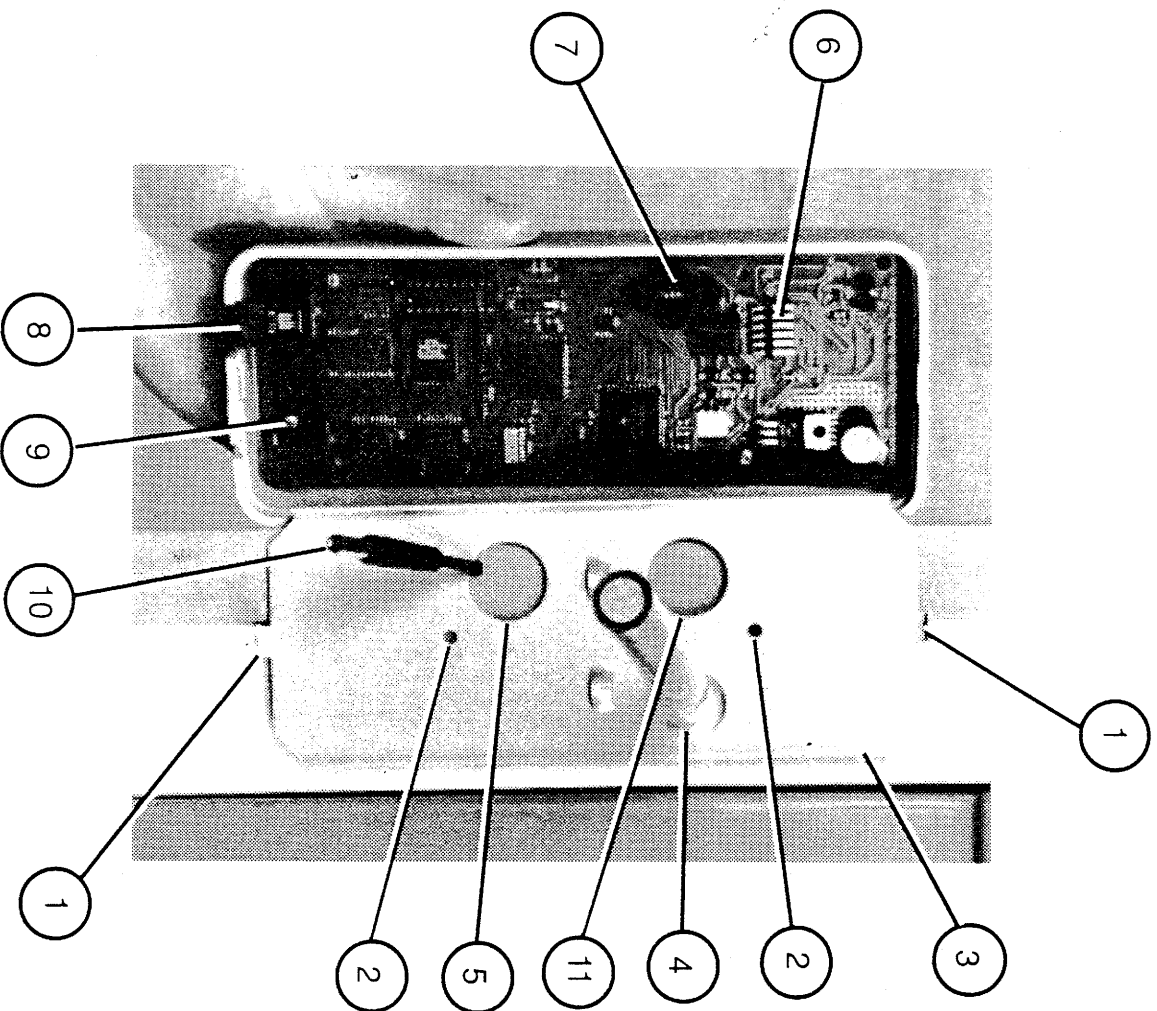
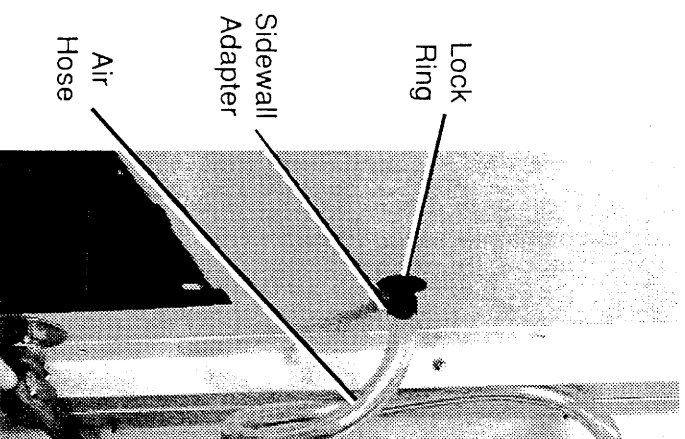

Figure 2.
Figure 3.
Table 2. Description of the Rear of the Monitor, reference figure 2.
Installation of the monitor requires drilling holes in the fume hood as shown in Figure 2. Additionally, many fume hoods will require a side wall adapter hose installation as shown in Figure 3.
- Step 2: Use the back plate (figure 2, item 3) as template to drill 2 holes, 0.104" diameter, (figure 2, item 2) to secure the back plate to the fume hood.
- Step 3: Use the back plate (figure 2, item 3) as template to drill 1 hole, 0.75" diameter, (figure 2, item 4) for air flow from the monitor to the fume hood.
- Step 4: If the power cord is routed through the face of the fume hood, use the back plate (figure 2, item 3) as template to drill 1 hole, 0.875" diameter, (figure 2, item 5) to route the power cord from the back of the hood to the front. The power cord can be also routed from the front of the monitor, in which case this hole is not needed.
- Step 5: If the monitor will be connected to external devices (such as a relay indicator), then use the back plate (figure 2, item 3) as template to drill 1 hole, 0.875" diameter, (figure 2, item 11) to route external wires to the "external interface" (figure 2, item 6) of the monitor.
- Step 6: In some applications, leaving the flow tube exposed to the interior of the fume hood will provide good results. However, many installations will require using a side wall adapter to guide air flow from the monitor to the fume hood as shown in Figure 3. In these cases, drill a 0.515" hole in the side wall of the fume hood, approximately 6" behind the sash and even with its bottom when fully open. Insert the side wall adapter from the inside of the hood and lock with the lock ring.
- Step 7: If a side wall adapter is used, connect the supplied air hose between the side wall adapter (figure 3) and the flow tube (figure 2, item 7) through the back plate orifice (figure 2, item 4). Secure hose firmly, and cut to length as necessary, to prevent accidental kinks and bends which can affect calibration.
Step 9: Connect the power cord (figure 2, item 10) to the power jack (figure 2, item 9). The power cord is shown routed from the rear of the fume hood, but may be also routed from the front side.